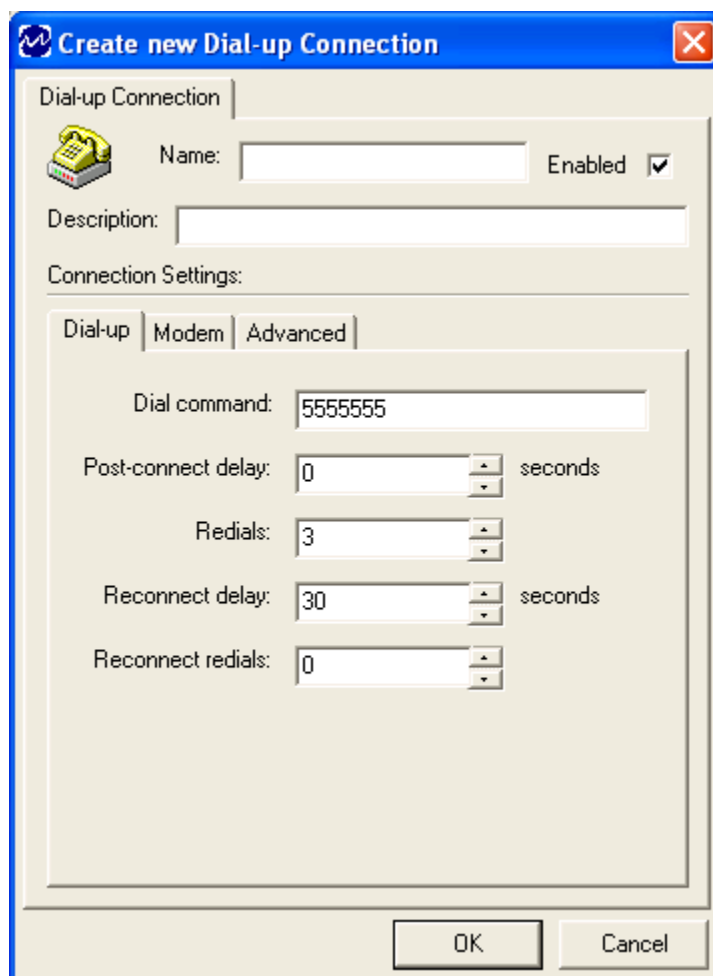

Figure 32 - Create New Dial-Up Connection Window - Dial-up Tab
The **Create New** window (Figure 32) displays the settings available when creating a **Dial-up Connection** object.
Figure 32 displays the **Create New Dial-up Connection – Dial-up** tab.
5. The **Create New** window appears (Figure 32).